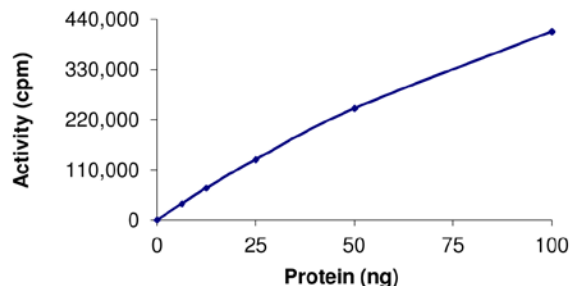

Figure 2: Enzymatic assay results. The specific activity of p38 α was determined to be 190 nmol/min/mg as per the activity assay protocol (on reverse).
- **Active Kinase** - Active p38 α (0.1 $\mu\text{g}/\mu\text{L}$) diluted with Kinase Dilution Buffer III as shown in Figure 2.